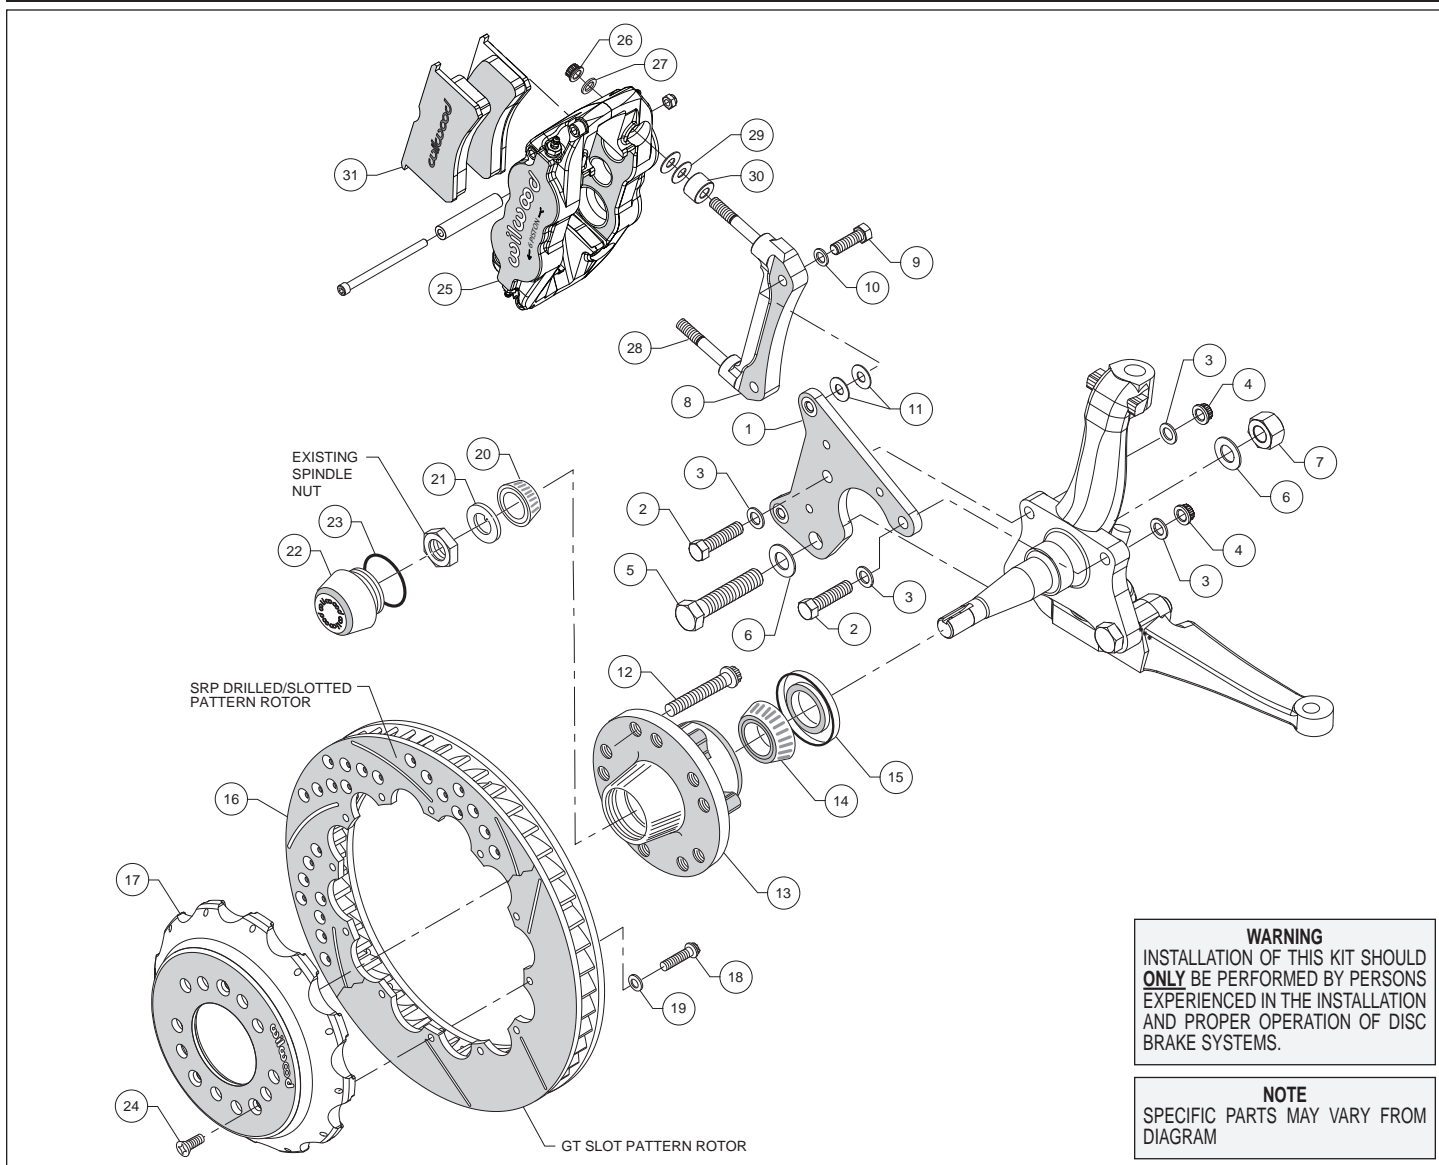
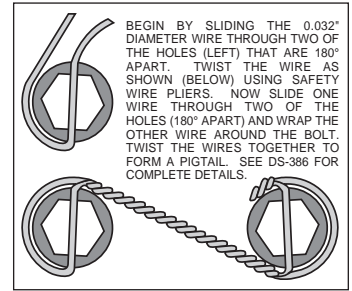

Figure 1. Typical Installation Configuration
Figure 3. Safety Wire Diagram
**Assembly Instructions** (numbers in parenthesis refer to the parts list and Figure 1 on the preceding pages): **CAUTION:** All mounting bolts must fully engage clinch nuts. Be sure to check that all bolts are protruding through flanged side of clinch nut after shimming.
- Orient the spindle bracket (1) as shown in Figure 1 and Photo 1, and install using bolts (2), washers (3), and nuts (4) on the top holes and bolt (5), washers (6), and nut (7) on the bottom hole, Figure 1 and Photo 1. Temporarily tighten the mounting bolts. Ensure that the flanged heads of the clinch nuts in the bracket are facing outboard, Photo 1. **NOTE:** The bracket must fit squarely against the mounting points on the spindle. Inspect for interference from casting irregularities, machining ridges, burrs, etc. Remove nuts one at a time, apply red *Loctite*® 271 to bolt threads and torque nuts (4) to 47 ft-lbs. and nut (7) to 140 ft-lbs.
- The caliper mount radial bracket (8) should initially be installed with clean, dry threads on the mounting bolts. Orient the bracket as shown in Figure 1, and Photo 2. Install onto the spindle bracket using bolts (9), and washers (10). Initially place two .035 thick shims (11) on each bolt between the radial and spindle brackets, Figure 1. Temporarily tighten the mounting bolts. Later, after the caliper alignment has been checked, the mount bolts will be secured using red *Loctite*® 271.
- Install wheel studs (12) into the hub (13), Photo 3. Torque to 77 ft-lb. **NOTE:** There are two five lug patterns in the hub (5 x 4.50 and 5 x 4.75). Ensure the correct hub stud pattern is being used to fit the wheel application.
- Pack the large inner bearing cone (14) with high temperature disc brake bearing grease (available from your local auto parts store) and install into the backside of the hub (13), Photo 4.
- Install the grease seal (15) by pressing into the backside of the hub (13), flush with the end of the hub, Photo 4.
- Orient the rotor (16) and the hat (17) as shown in Figure 1 and Photo 5. Attach rotor to hat using bolts (18) and washers (19). Using an alternating sequence, apply red *Loctite*® 271 to the threads, and torque to 155 in-lbs. For an added measure of security, the bolts may be safety wired using standard 0.032 inch diameter stainless steel safety wire as shown in Figure 3. Refer to Wilwood's data sheet DS-386 (available at [www.wilwood.com/Pdf/DataSheets/ds386.pdf](http://www.wilwood.com/Pdf/DataSheets/ds386.pdf)) for complete safety wire installation instructions.
- NOTE:** This kit contains distinct right and left hand calipers that must be mounted in a specific direction, as described below. Lubricate the caliper mounting studs (28) with lightweight oil. Initially place one spacer (30), and two .035" thick shims (29) on each stud between the caliper and the bracket, as shown in Figure 1 and Photo 8. Mount the caliper (25) onto the bracket (8) using lock nuts (26) and washers (27), Figure 1. Ensure that the caliper is mounted so the largest pistons are at the rotor exit end of the caliper, in relation to the direction of rotor rotation. Temporarily tighten the lock nuts and view the rotor through the top opening of the caliper. The rotor should be centered in the caliper, Photo 9. If not, adjust by adding or subtracting shims (11) between the spindle bracket (1) and the caliper mount bracket (8). Always use the same amount of shims on each of the two mounting bolts. Once the caliper alignment is correct, remove the radial bracket mounting bolts one at a time, apply red Loctite® 271 to the threads, and torque to 40 ft-lb. **NOTE:** The end of the bolts must be flush with, or protruding through, the head of the clinch nut.